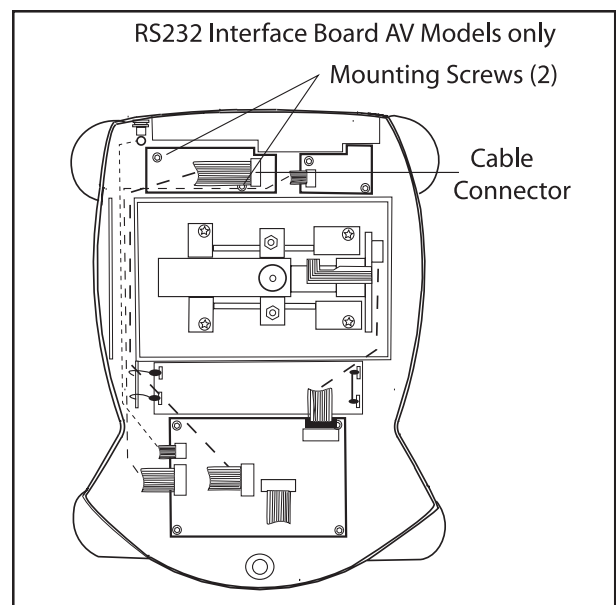

Figure 3-5. Removing RS232 PC Board.
2. Disconnect the cable from the RS232 Interface printed Circuit Board assembly. See Figure 3-5.